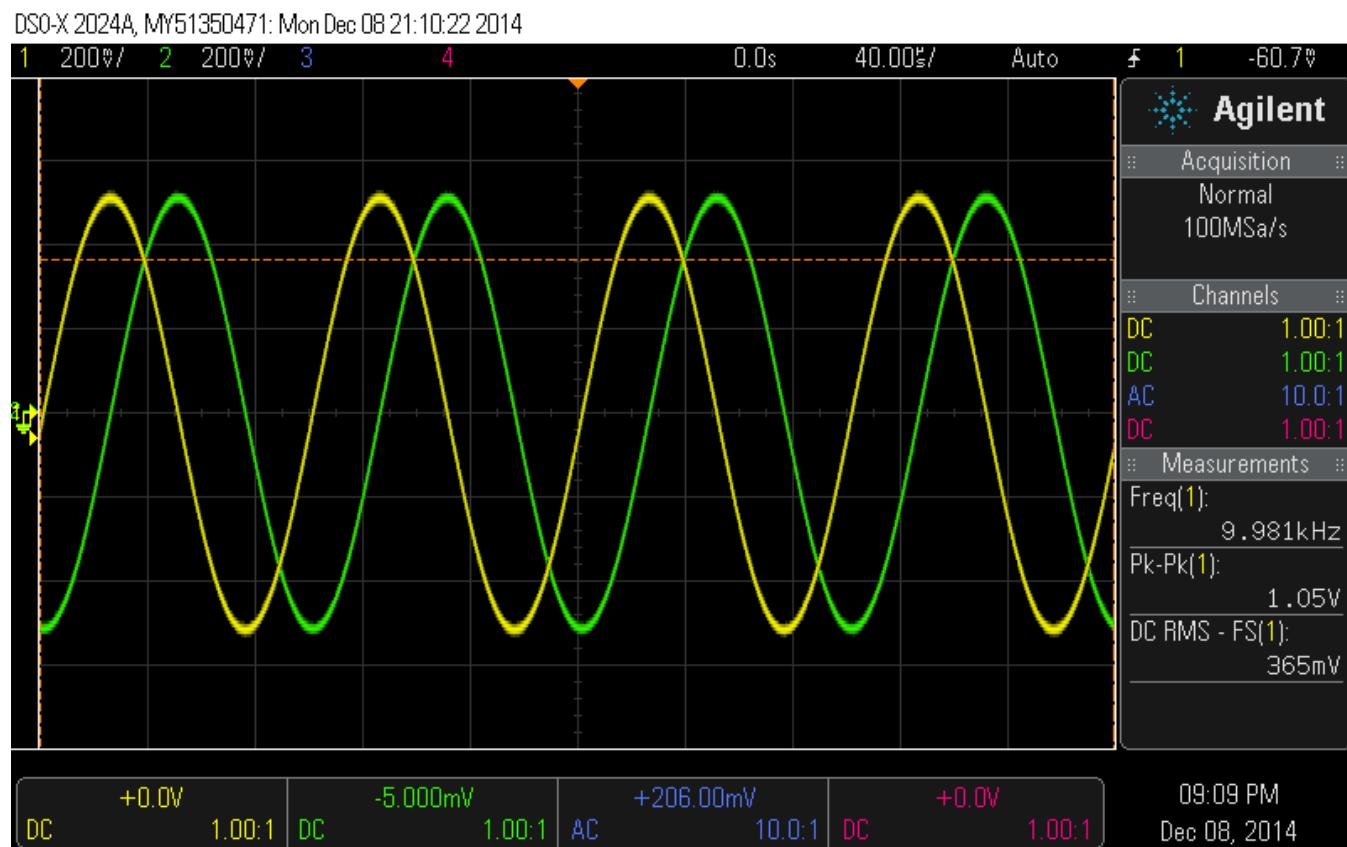

Figure 24. CW Output
6. The oscilloscope displays the frequency I and Q signals at 10 kHz as shown in Figure 24. The amplitude should be around 1.3 Vpp \pm 200 mVpp, though this amplitude may change. The frequency should be 10 kHz and signals should be 90 degrees out of phase.